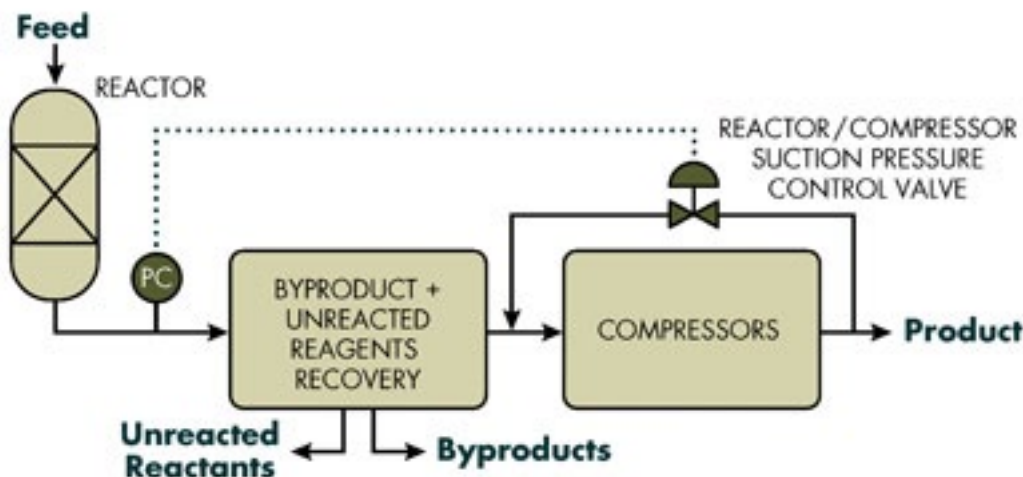

Figure 4. Regulating pressure via a single control valve enables use of a slightly smaller compressor and affords better control.
Viewing the two processes as one continuous system led to a straightforward solution — eliminating the upstream valve and controlling pressure only with one properly sized valve in the compressor's discharge recycle line (Figure 4). This also allowed for a slightly smaller compressor that optimally handles a higher suction pressure and better controls the volume flow of the compressor feed stream. The change supported a continuous flow at a rate that met the increased capacity requirement.
umbicarbonate (SBC), and mono-ammonium phosphate (MAP). Figure 4 shows a dataset of experiments conducted with cornstarch. The inertant dusts used were sodium bicarbonate (SBC), mono-ammonium phosphate (MAP) and rock dust (RD). Note the outspoken form of the SBC suppressant curve which resembles a classical flammability curve, clearly showing the superior suppressant efficiency of SBC against the hazard of cornstarch.
Figure 4. Each Application of hazard must be defined as to the minimum inerting concentration (of fuel and suppressant) below which explosions are possible and above which they are not (example shown: cornstarch in a 1m3 explosion chamber).